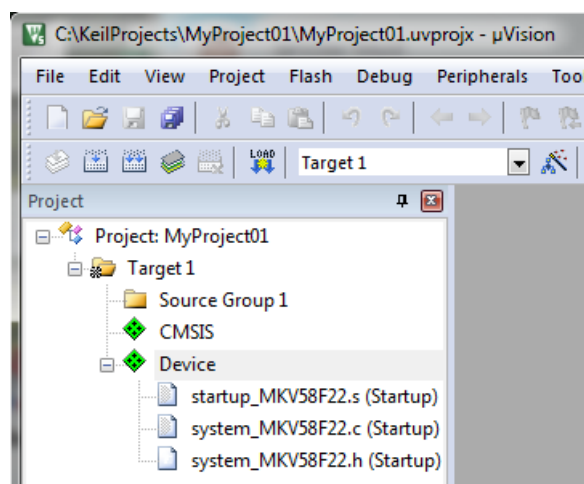

Figure 1-31. Project
10. Click OK, and a new project is created. The new project is now visible in the left-hand part of Keil uVision. See Figure 1-31.
13. Select Use Single Precision in the Floating Point Hardware option. See Figure 1-31.